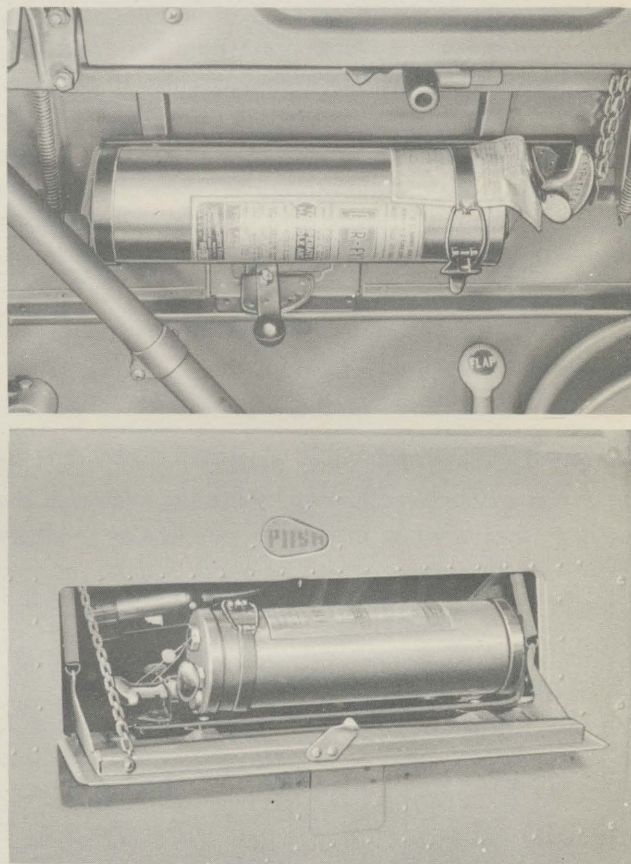

FIG. 3—FIRE EXTINGUISHER
3. FIRE EXTINGUISHER (See figure 3.)